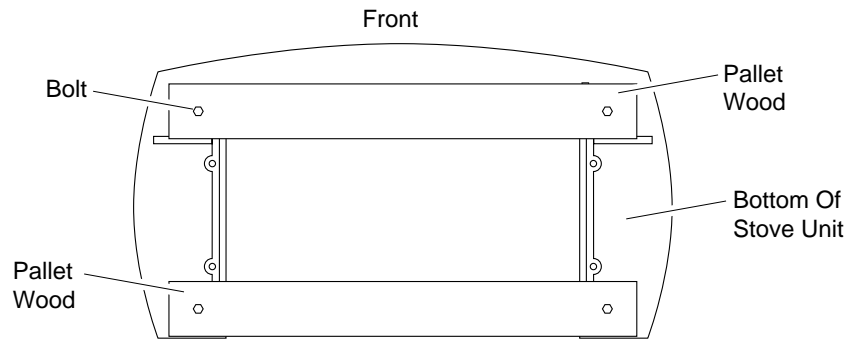

Figure 7 - Removing Pallet Wood From The Bottom of The Stove
7. Remove remaining pallet wood attached to bottom of stove body (see Figure 7). Use an adjustable wrench to remove bolts.